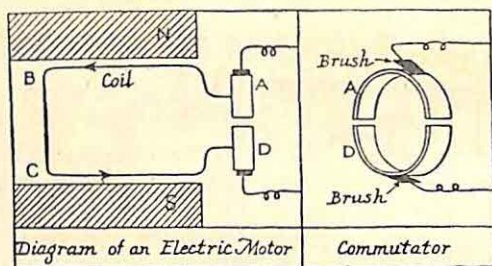

Fig. 43
First, when the coil turns round and round, what happens to the connecting wires which bring the current to it? Obviously, they cannot be joined on to the coil as they were in experiment 56. It is not necessary that they should be, for as you learned in experiment 40, the current can flow if wires just touch. Actually, the ends of the coil are attached to a ring which turns round with the coil; this ring picks up the current from the "live" wires. In order to make good contact, the ends of the live wires are generally joined to pieces of carbon or to pads of copper gauze (called brushes); these brushes press against the ring as it turns (see fig. 43).
Second, why does the coil turn completely round and round? In experiment 56, the coil turned so far and then stopped. If you look at fig. 43 you will see that the
*Notebook Exercise.*—Draw fig. 43 and describe briefly how an electric motor works.